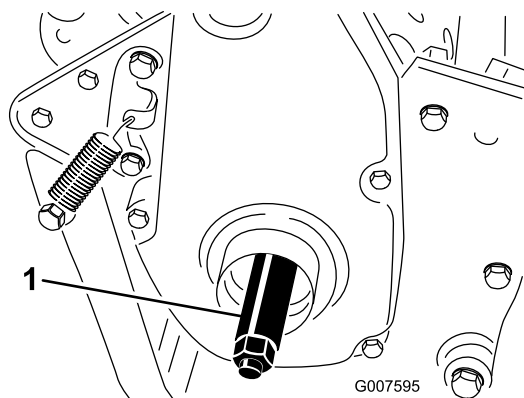

Figure 7
3. Thread the right wheel shaft into the drive pulley on the right side of the machine (Figure 7).